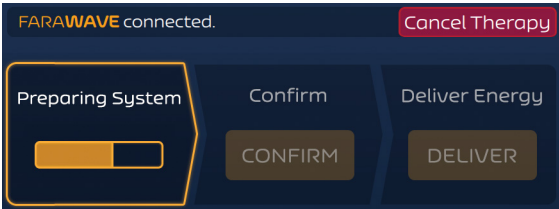

Figure 7. Therapy Screen — Asynchronous Mode — Preparing State
2. After positioning the PFA catheter in the desired location, press the PREPARE button to initialize the FARASTAR PFA Generator. Figure 7 shows the User Interface in this mode.